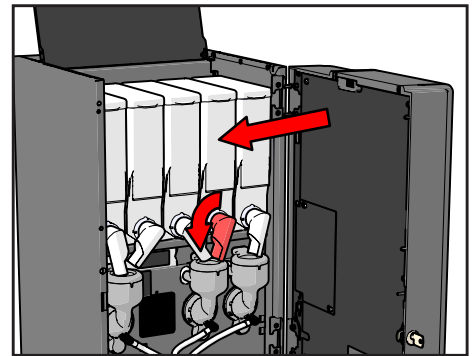

Figure 9.
11. Place the canisters back in the machine (see Figure 9).